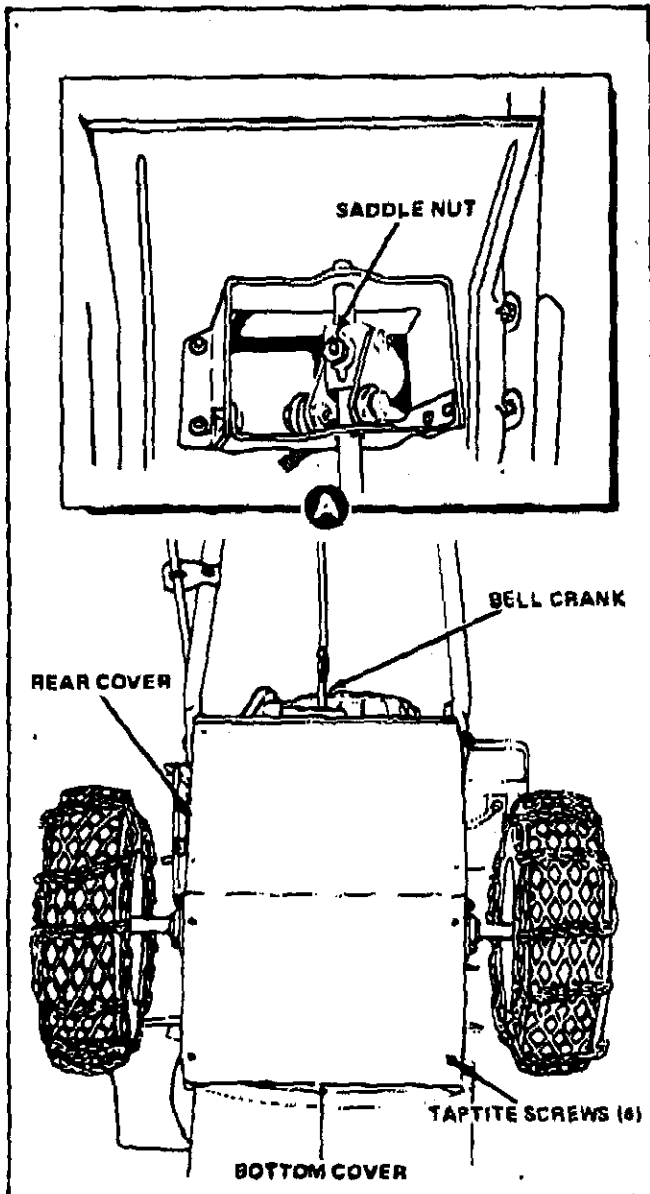

Figure 6
6. Install the bottom cover which was packed separately with four taprite screws (figure 6).